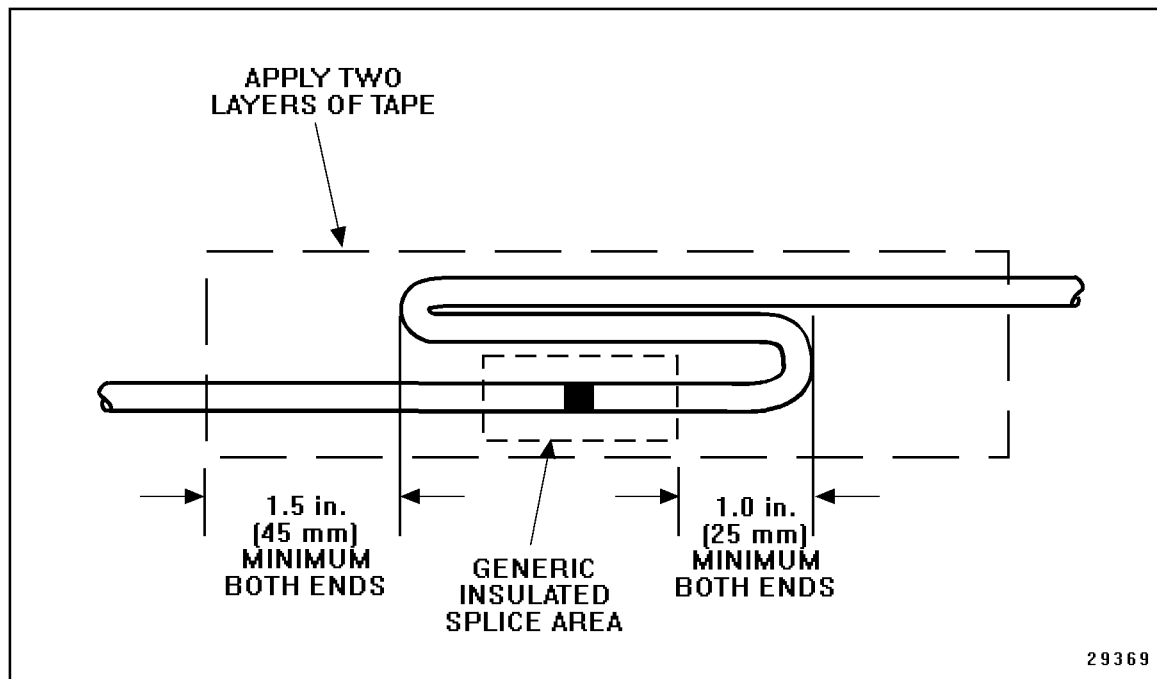

Figure 8-34 Recommended Strain Relief of Spliced Joint
8. Loop the lead back over the spliced joint and tape. See Figure 8-34.